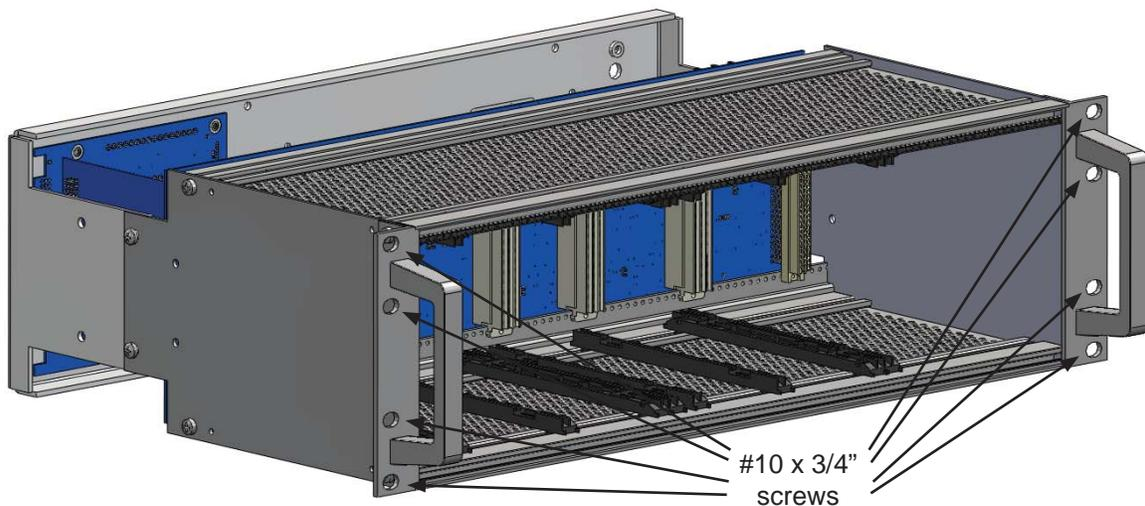

Figure 2-1: Subrack Installation
2. Install the subrack unit(s) in the 19" rack using four #10 x 3/4" screws as shown in Figure 2-1. Eight screw holes are available, only four screws are required to mount the subrack properly. Use stainless steel screws if the equipment is to be placed in a corrosive environment.